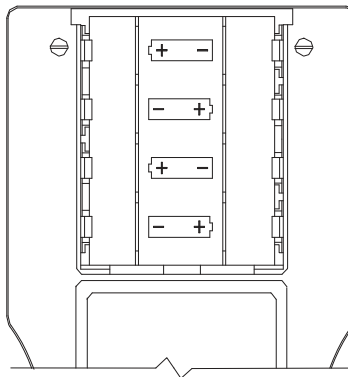

Figure 3-1. Battery Replacement
1. Remove the battery cover from the back of the PCA (Figure 3-1).